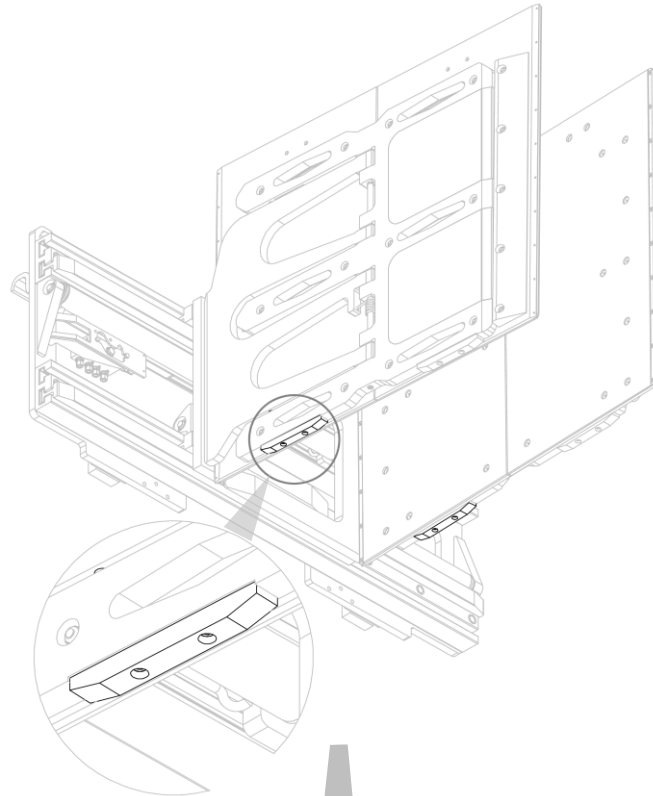
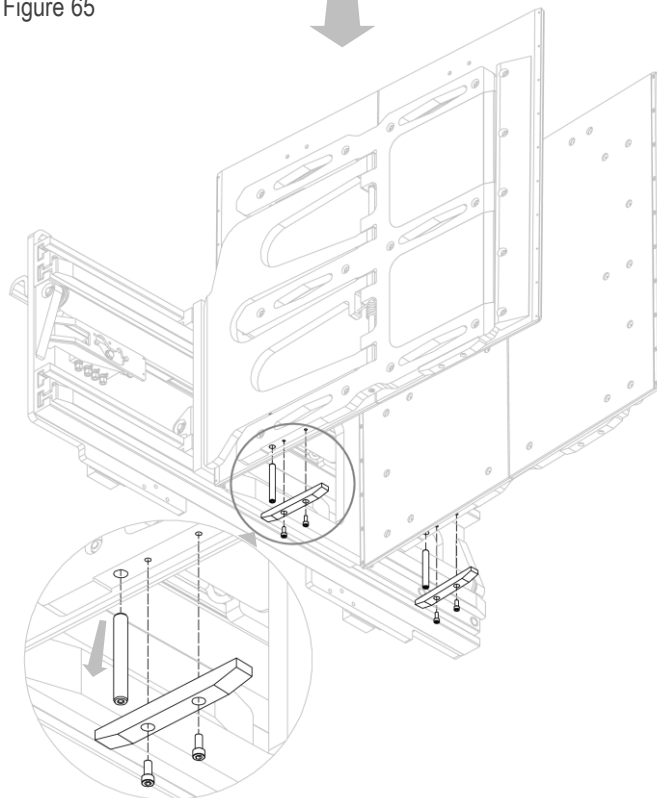

Figure 65
Figure 66
3. Remove the lower swing stop pins, one at a time, after temporarily removing the anti-slip pads. (see *Figure 65* and *Figure 66*).